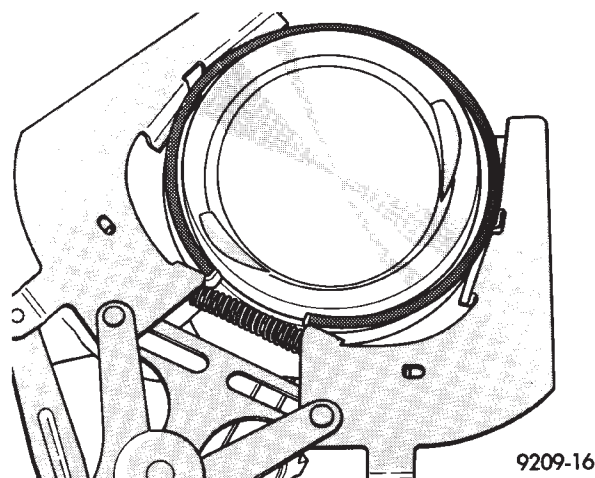

Fig. 12 Installing Upper and Intermediate Rings
(3) Install upper side rail first and then the lower side rail.
(4) Install No. 2 piston ring and then No. 1 piston ring (Fig. 12).